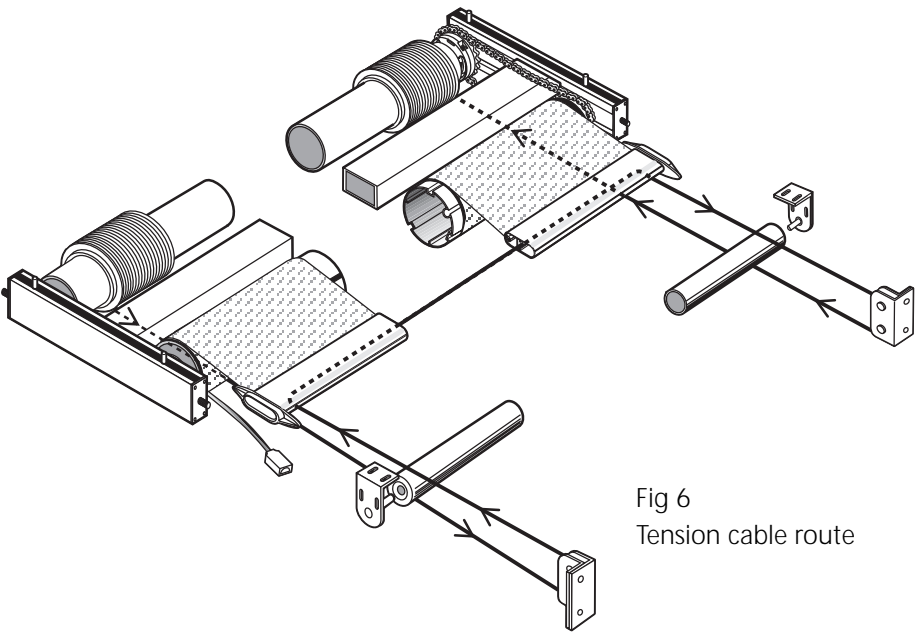

Fig 6
(5) Connect the motor to a test-switch equipped with a suitable socket for the motor plug and connect to a suitable temporary supply.
(6) Place the reel of tension wire on some form of horizontal spindle and pull one end of the wire through a return pulley and back up to the hem-bar. Feed the cable around one hem-bar pulley and down the back of the extrusion. Extract the wire from the other end and lay it back to the opposite return pulley. Feed around the return pulley back up to the Tess unit. Fig 6.